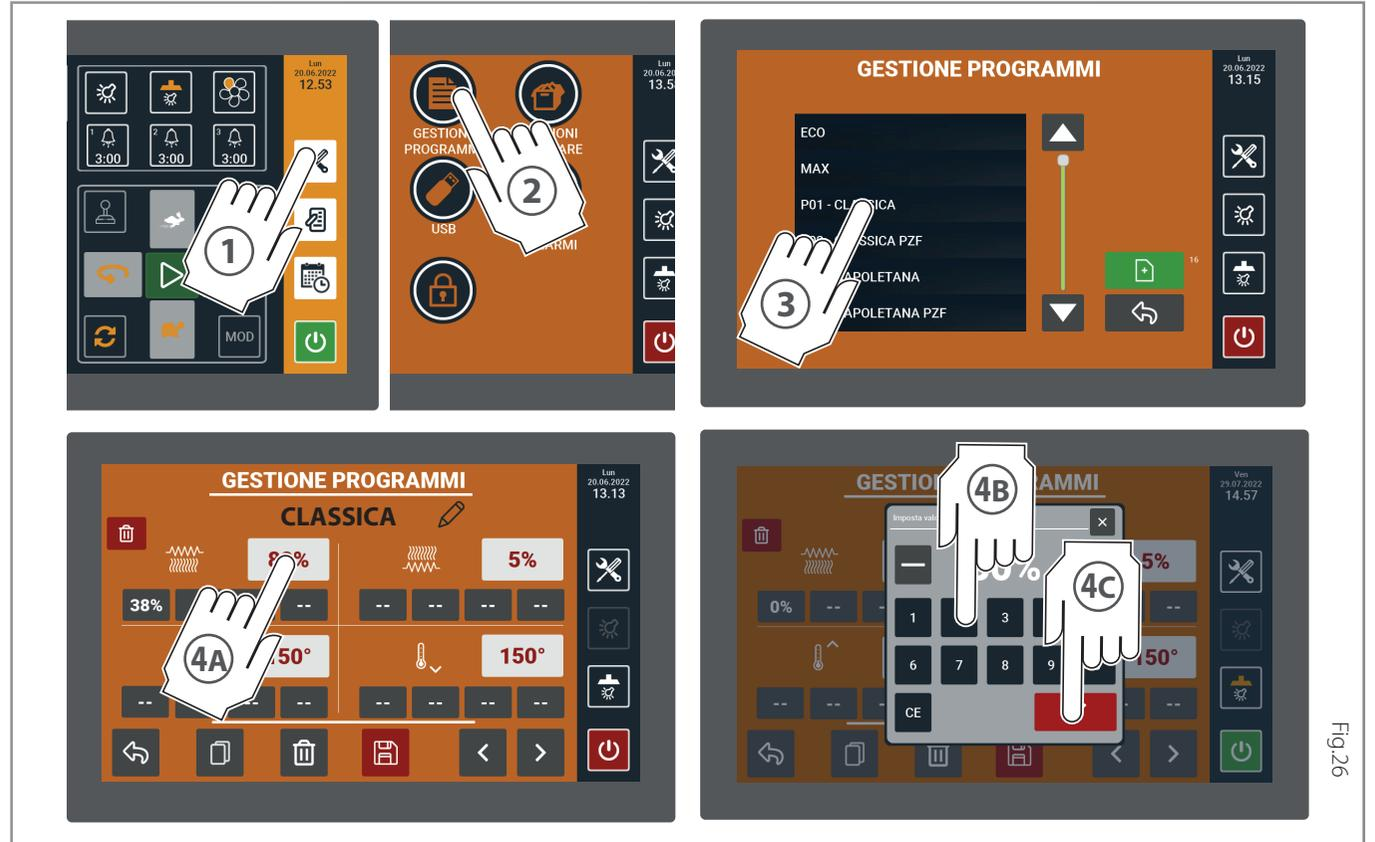

Fig.26
► Fig.26
- ① Touch the **SERVICE** icon (with the oven in stand-by).
- ② Touch the **PROGRAM MANAGEMENT** icon.
- ③ Touch the **NAME** of the recipe you wish to modify (in the example "Classic").
- ④ Change the values as usual. Confirm with  or cancel with  the entries made.
- ⑤ Save the recipe with the **DISC**  symbol.